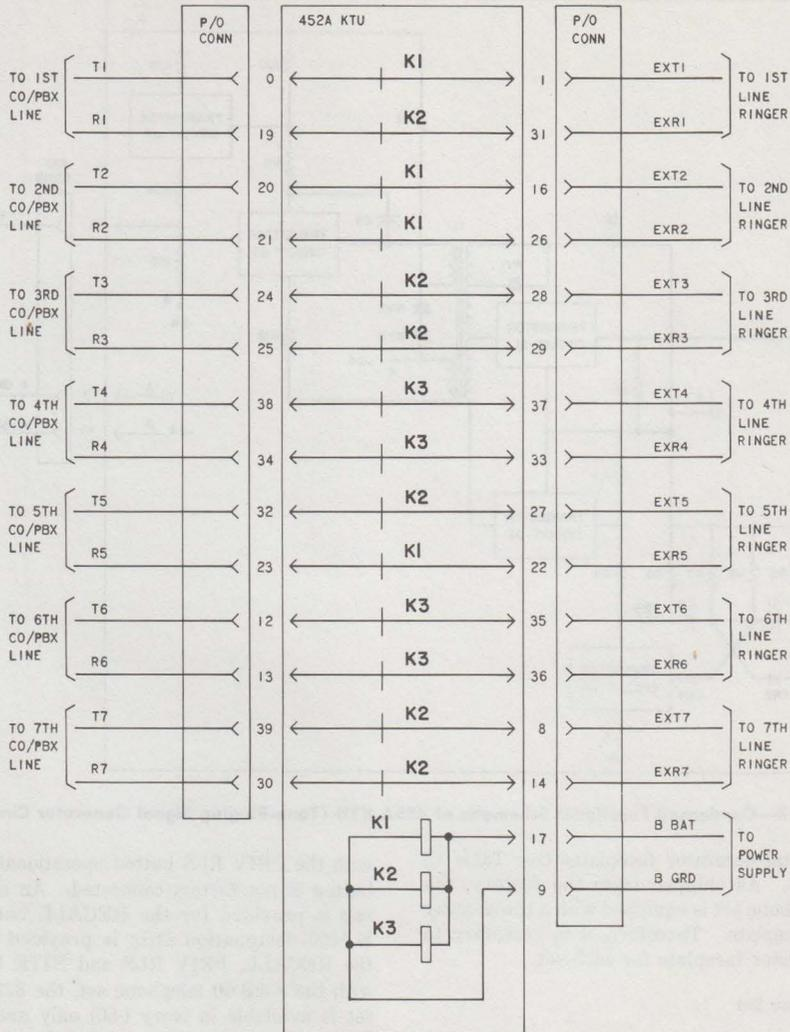

Fig. 17—Condensed Functional Schematic of 452A KTU (Power Failure Transfer Circuit)
2.21 The 452A KTU (Fig. 17) is a 4-inch unit that automatically "cuts through" up to